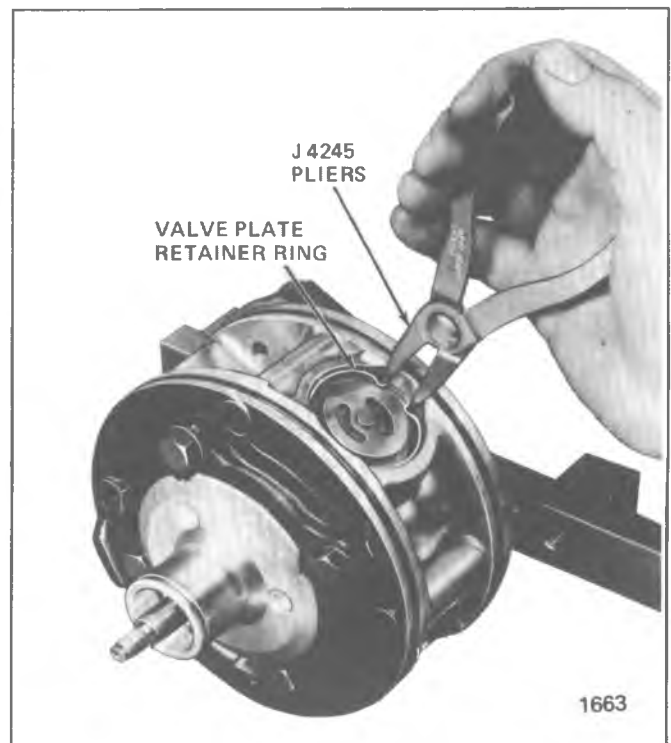

Fig. 1D-111 Replacing R-4 Valve Plate Retainer
4. Install Discharge Valve Plates and/or Retainers as shown in Figs. 1D-111 and 1D-112. Reposition compressor and Holding Fixture in vise as necessary for access.